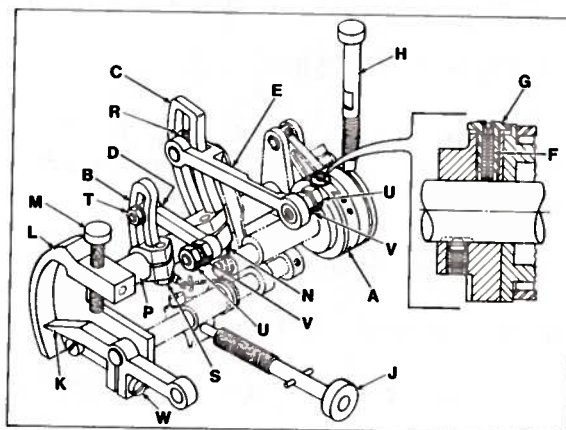

Fig. 34
The basic drive motion for horizontal travel of the main and differential feeds is derived from stitch regulator assembly (A, Fig. 34). This motion is transmitted to the individual feed bars by means of the main feed segment (B) and differential feed segment (C). Both segments are affixed to a common shaft which is driven in a rocking motion by an adjustable eccentric within the stitch regulator assembly. As a result, any stitch length change will effect the travel of both the main and differential feeds.
- Set push button stitch regulator (A, Fig. 34) to maximum stitch length by depressing and holding plunger (H) down in notch of stitch regulator eccentric and turning handwheel in operating direction.
- Turn differential thumbscrew (J) counterclockwise until differential feed indicator pointer (K) is positioned at the bottom of graduated scale on indicator plate (L).
- Turn stop screw (M) counterclockwise as required to allow full up and down movement of pointer (K).
- Loosen clamp screw (N) and position differential feed drive segment (C) forward. Temporarily tighten screw (N) to hold segment in position, yet allowing segment to be repositioned on feed drive rock shaft (P) for adjustment.
- Manually operate pointer (K) up and down so sliding block (R) travels to the top and bottom of segment slot. At this time, while operating pointer, observe differential feed movement. Then gradually tap the top - front section of segment (C) to the rear as required until differential feed shows no movement when pointer is operated and sliding block travels the full length of segment slot. Recheck setting, then torque clamp screw (N) to 38 - 40 in. lbs. (44 - 46 cm/kg).
- Rotate differential feed thumbscrew (J, Fig. 34) as required until travel of main and differential feeds are equal. At this time, the differential feed indicator pointer (K) should be set to "0" on the graduated scale of indicator plate (L). If an adjustment is required, loosen clamp screw (W), set pointer to "0" and tighten clamp screw (W).